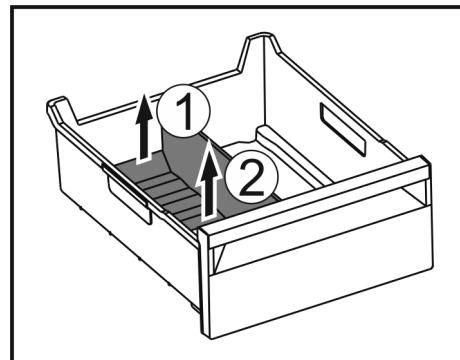

Fig. 97
- Lift the rear part of the ice compartment divider. Fig. 97 (1)
- Remove the ice compartment divider upwards. Fig. 97 (2)